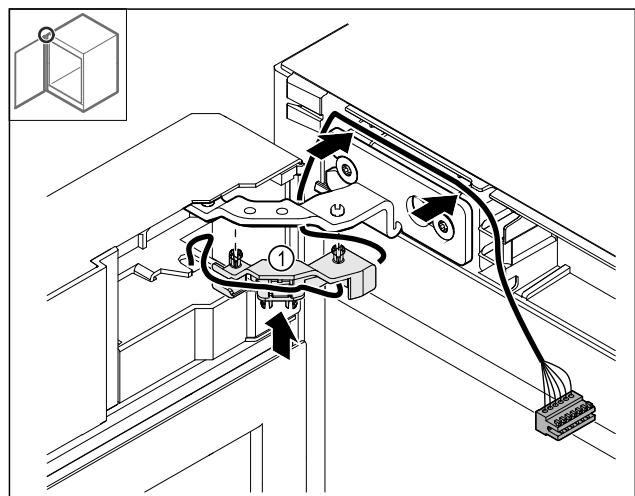

Fig. 51
- ▶ Press the cable bracket Fig. 51 (1) into the hinge.